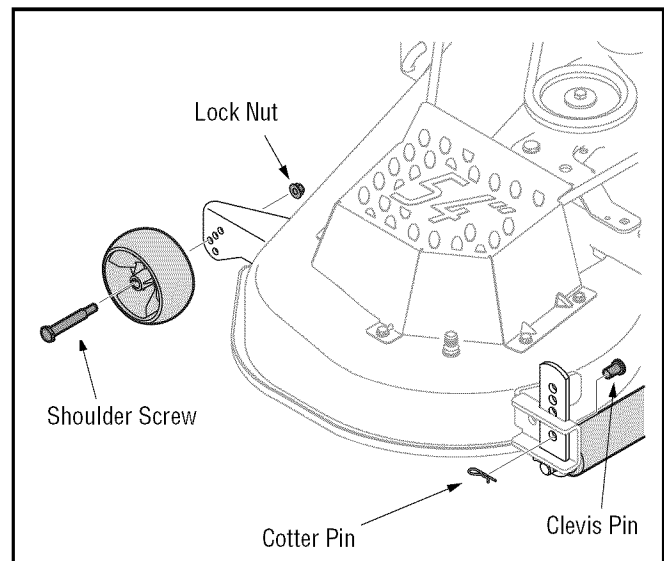

Figure 2
- Remove the clevis pins and hairpin clips from the deck roller brackets on the left and right sides of the cutting deck. See Figure 2.